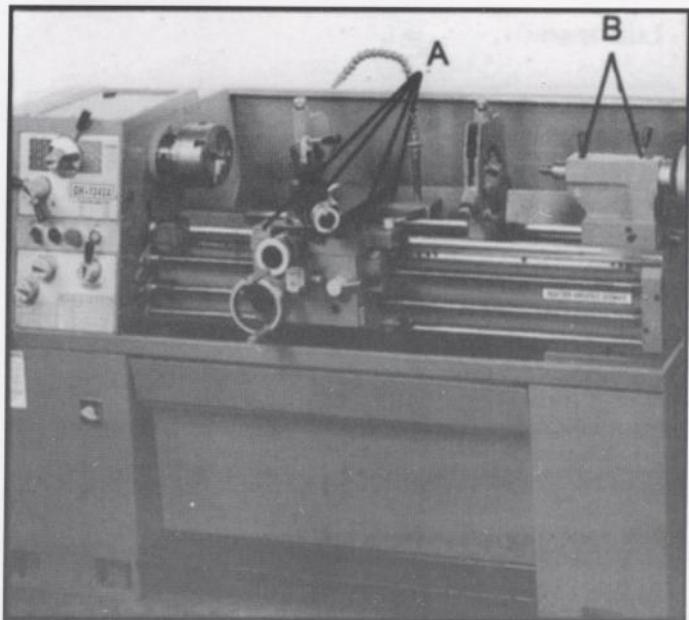

Fig.6
8. **Carriage**-lubricate four oil ports(A,Fig.6)with 20W machine oil once daily.
9. **Tailstock**-lubricate two oil port(B,Fig.6)with 20W machine oil once daily.